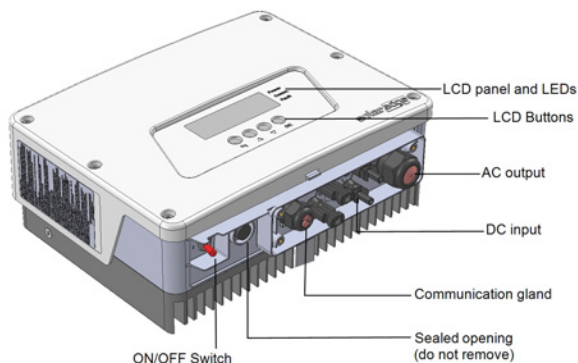

Figure 5: Inverter Interfaces
4. Open the AC cable gland and insert the cable through the gland (see Figure 5).